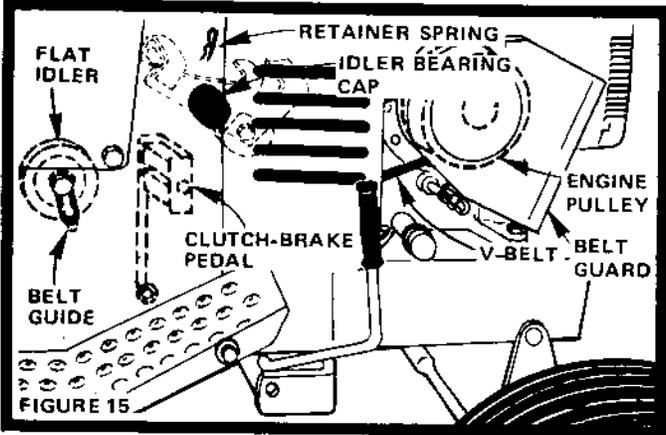

FIGURE 15
- A new V-Belt may stretch after the first few hours of operation. If Clutch-Brake Pedal, in drive position (Fig. 15), is considerably to the front or rear of the vertical position, the V-Belt is out of adjustment and must be re-tensioned.
- a. Idler Bearing (Fig. 15)
- Remove Spark Plugs and Belt Guard and turn Engine Pulley (Fig. 15) clockwise by hand until 21°BTC mark on gear cover aligns with mark on flywheel. Turn another 1/4 turn to ensure points are fully open.